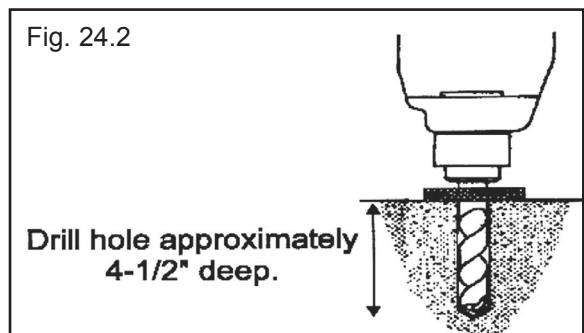

Fig. 24.2
3. Using the Foot Pads and Base Plates as guides, drill each anchor hole in the concrete (approximately 4" deep) using a rotary hammer drill and 3/4" concrete drill-bit. To ensure full holding power, do not ream the hole or allow the drill to wobble. (See Fig. 24.2)